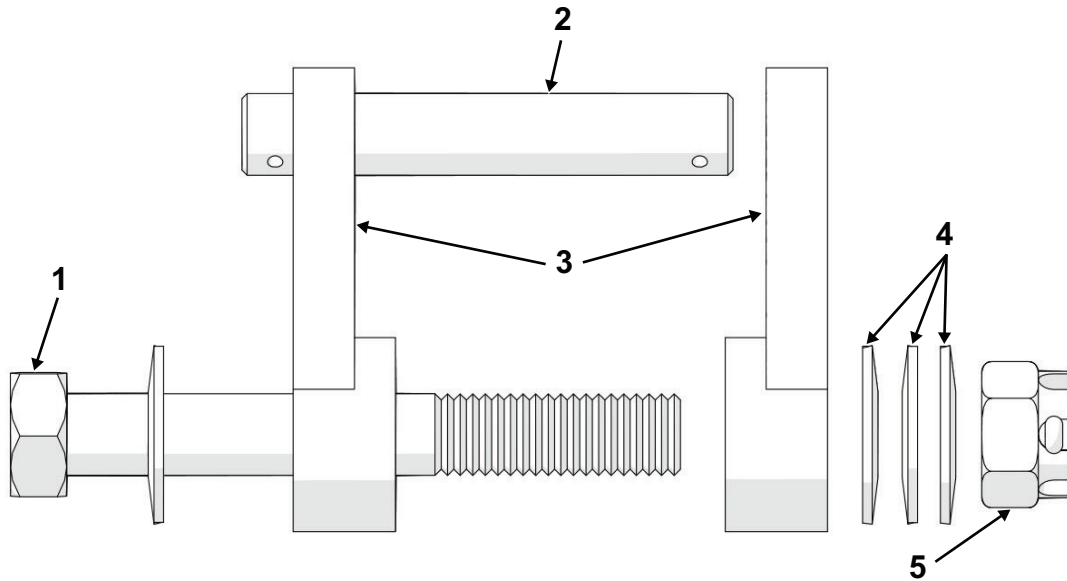

Fig. 15
1. Install the bolt, Belleville washers and castle nut through the AE arms and brake base. See **Figure 15 on page 30**.